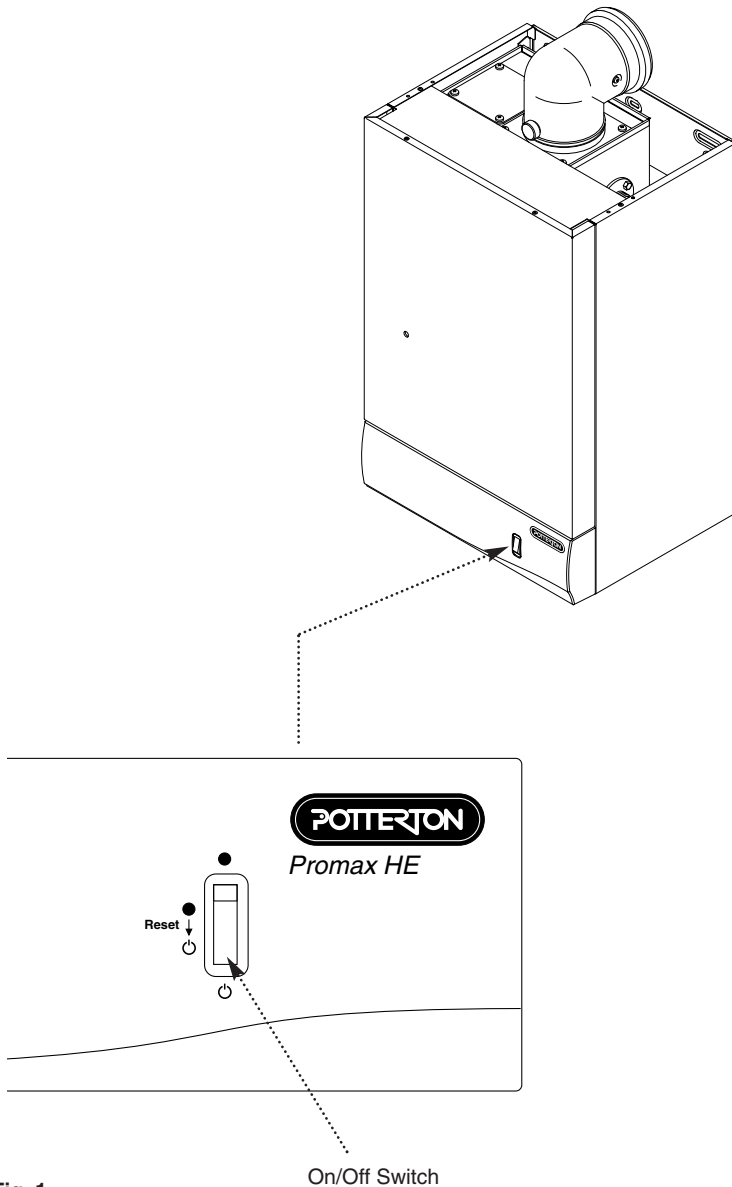

Fig. 1
2. Switch the on/off switch on (Fig. 1).
2. Press the on/off switch off (Fig. 1), then turn off the gas supply at either the appliance gas cock or the meter.